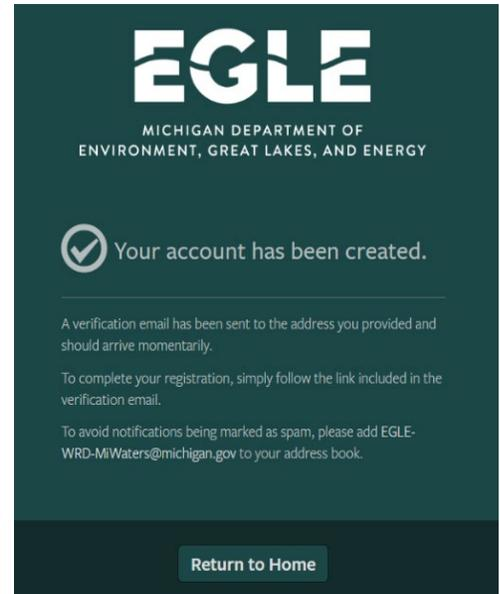

Figure 5-1 – Account Created
**Step 3:** Click **Create Account** – The pop-up window (Figure 5-1) will state your account has been created.